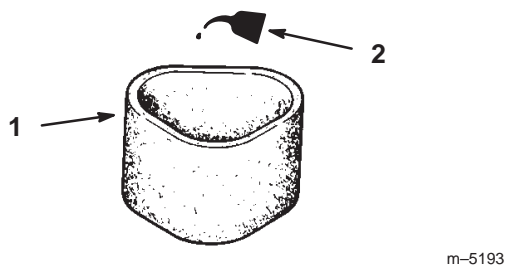

Figure 31
- Put one or two ounces of oil on the element (Fig. 31). Squeeze the element to distribute the oil.